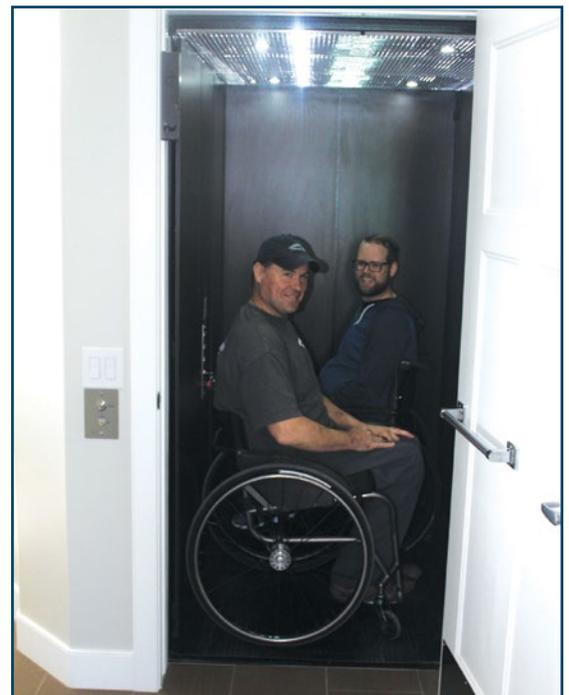

Figure 5: Residential elevator
**Residential elevator** is the commonly used term for a lift that is enclosed in a shaft and can travel vertically as much as 15 m (590 in.). Such elevators can be equipped with platforms of various sizes. The first thing to consider is the platform size, with the minimum size being 864x1,372 mm (34x54 in.). A good rule of thumb is to use an elevator sized big enough for someone in a wheelchair; the small added expense now eliminates the need for any future costly modifications to the elevator (see figure 5).